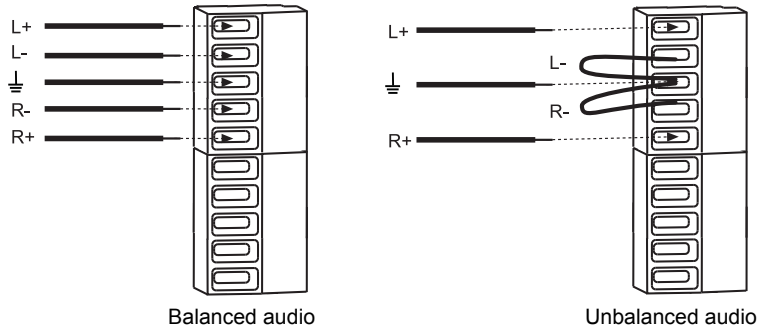

FIG. 63 Stereo audio balanced and unbalanced wiring
Source and destination devices will require either balanced (differential) or unbalanced (single-ended) connections. The diagram in FIG. 62 illustrates the options for wiring connections between the sources and the input connectors and between the output connectors and the destinations. More than one of these options can be used in the same system. FIG. 63 shows details for balanced and unbalanced wiring.
2. Insert the wires (for wire placement for balanced and unbalanced audio, see FIG. 63) and firmly re-tighten the clamps to make proper connections.